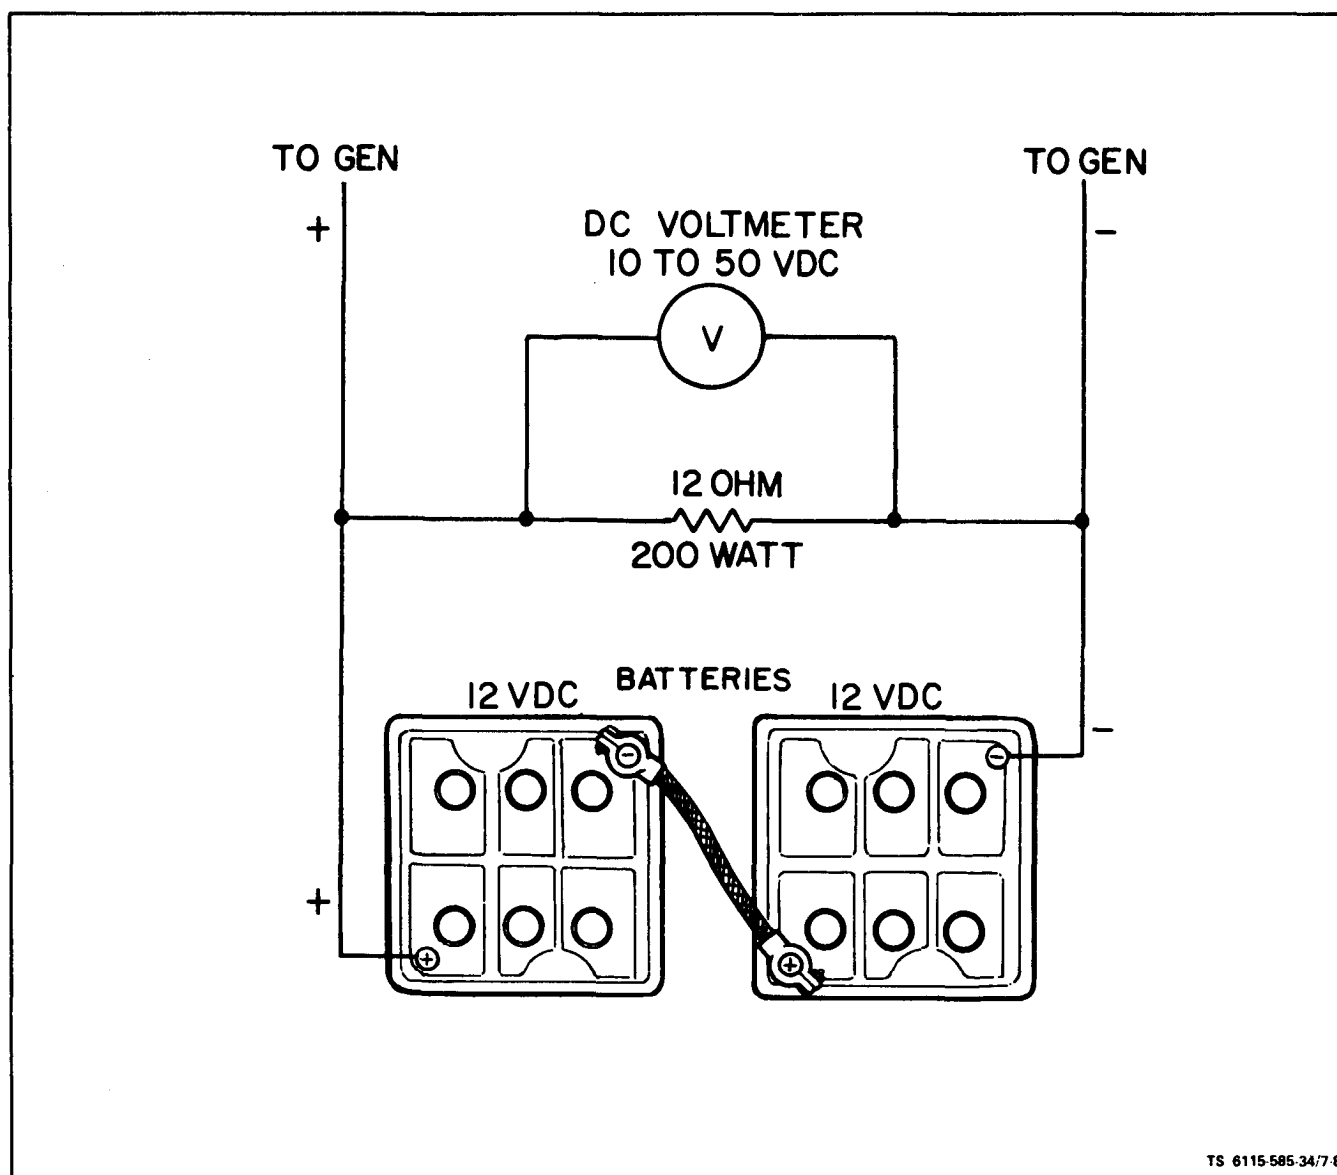

Figure 7-8. Resistively Loading the Batteries
(1) Load the batteries with a 12 ohm, 200 watt resistor (see figure 7-8). Run the set at rated frequency. The charge rate should be between 6.5 and 10 amperes.
(2) With generator running, disconnect batteries leaving 12 ohm resistor load in circuit to generator. The alternator should provide a dc voltage between 24 and 28.5 volts.